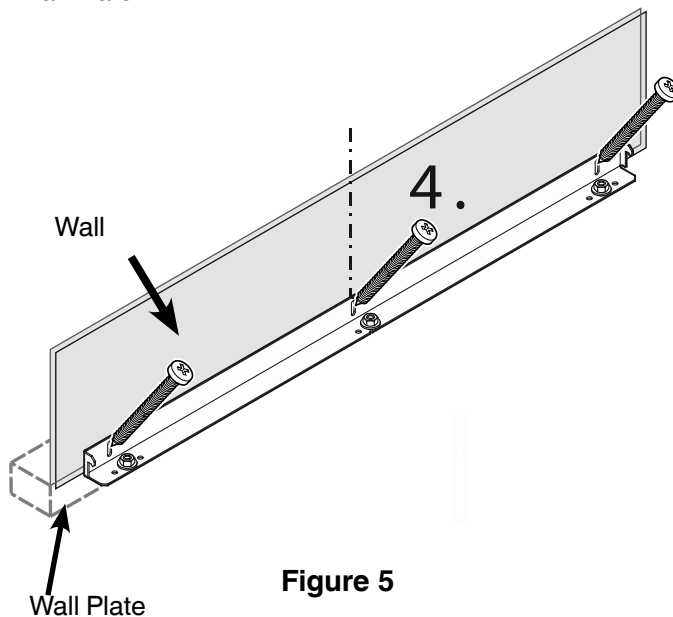

Figure 5
4. Fasten bracket with 3 screws (1/4" x 2-3/8") into the wall plate (**Figure 5**).